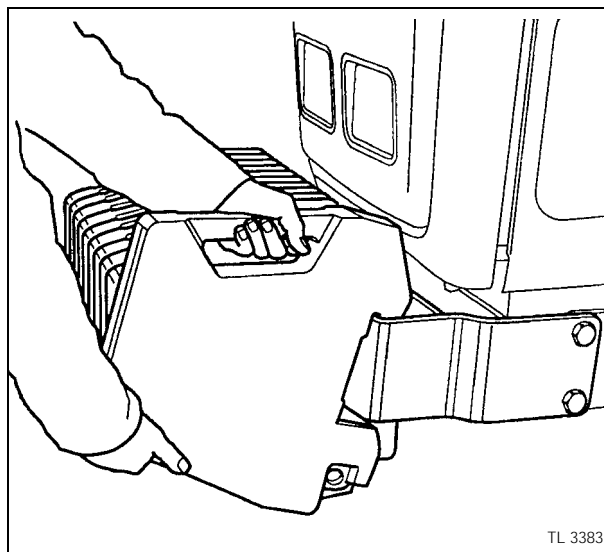

Fig. 20
- Use front counterweights to increase tractor stability when towing a heavy load or to counter balance a heavy rear mounted implement (Fig. 20).